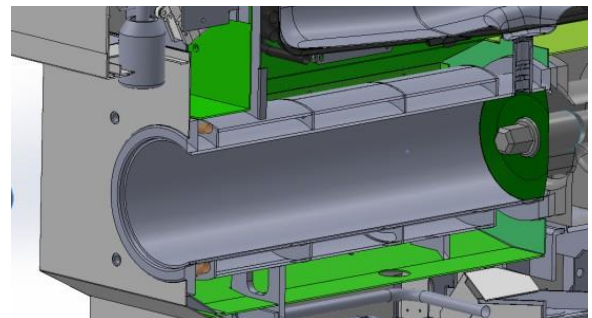

Figure 69
1. Using the "A" brush and water mixed with an approved detergent, clean the entire freezing cylinder. (Figure 69)